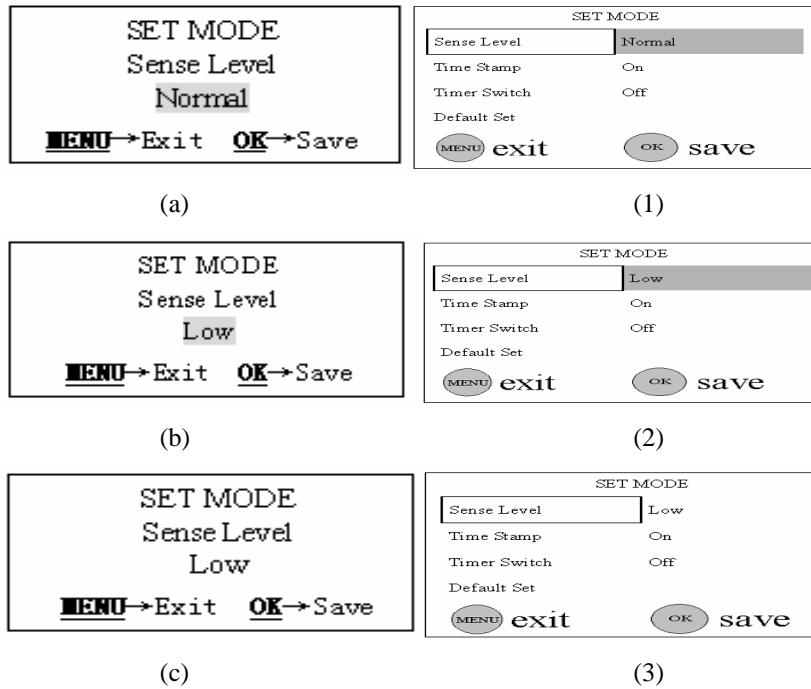

Figure 13: Setting PIR sensitivity
- Push the UP or DOWN key till the parameter “Sensor Level” appears as shown in the Fig. 13(a) and 13(1).
- Push the RIGHT key till the value changes to “Low” as shown in the Fig. 13(b) and 13(2).
- Press OK key for saving setting or MENU key for canceling operation and exiting. After pressing OK key the selected value will be no more highlighted, shown in the Fig. 13(c) and 13(3).